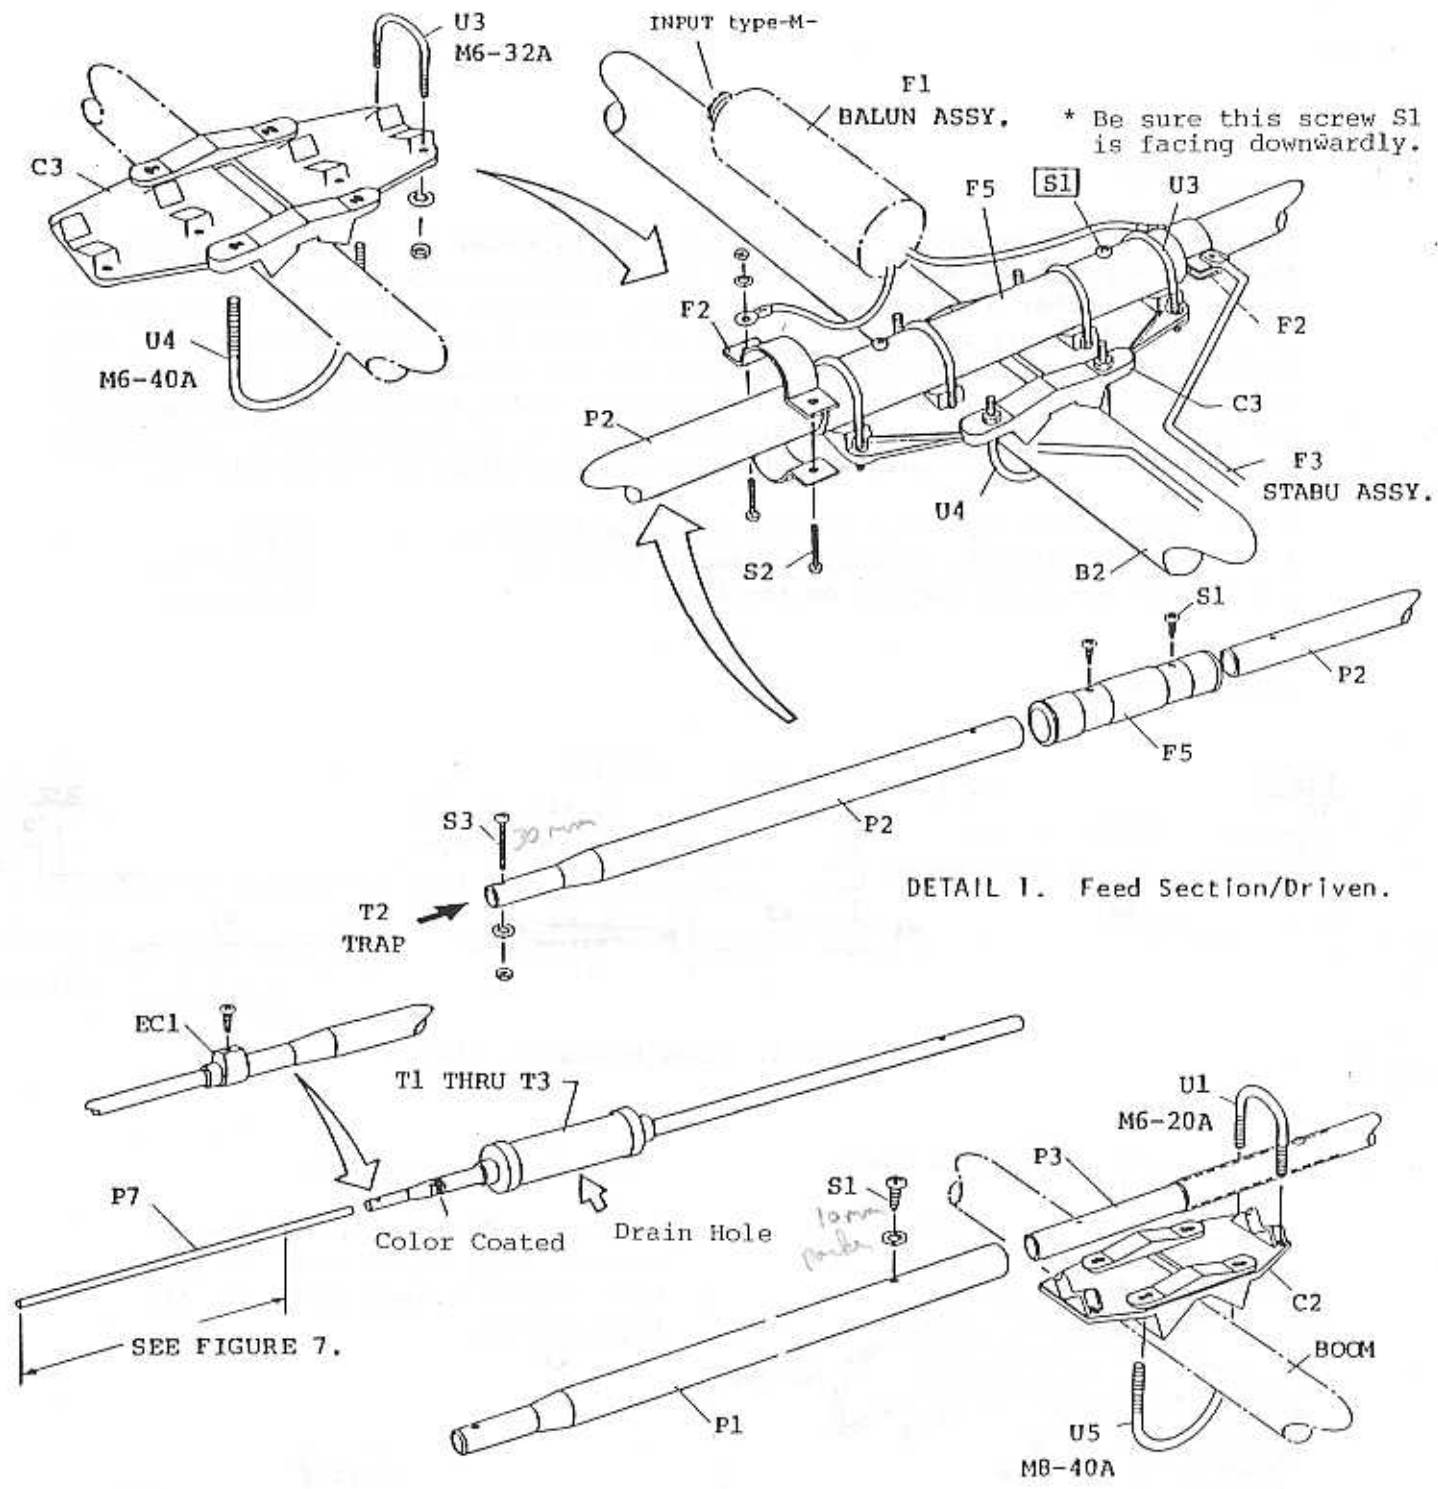

Figure 6. Driven and Parasitic Element Assembly.
- () 2. Driven Element, Parasitic Element Assembly Figure 6.
- () 3. Mounding each Element on the Boom Figure 6.